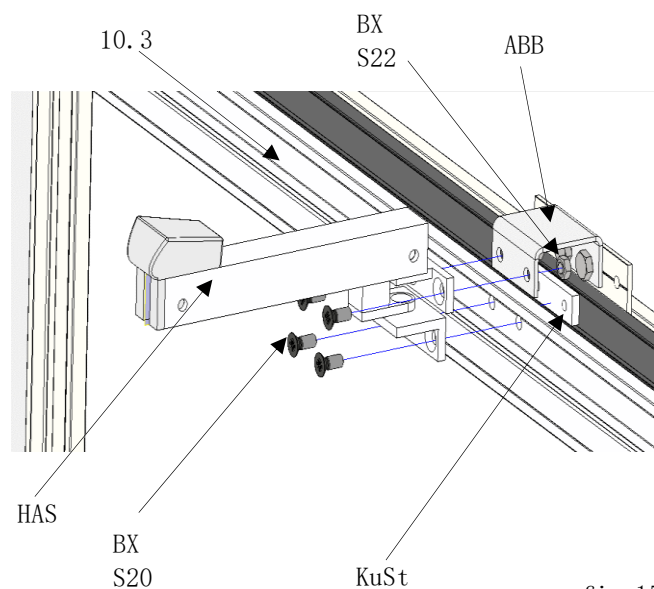

fig. 151
- attach the hand-opener (item HAS) to the crossbar (item 10.3) using a sliding block (item KuSt) and 2x countersunk screws (item S20). (fig. 151)
- mount the hand opener (item HAS) with 2x countersunk screws (item S20) and 2x hexagon nuts (item S22) on the connecting plate (item ABB). (fig. 151)